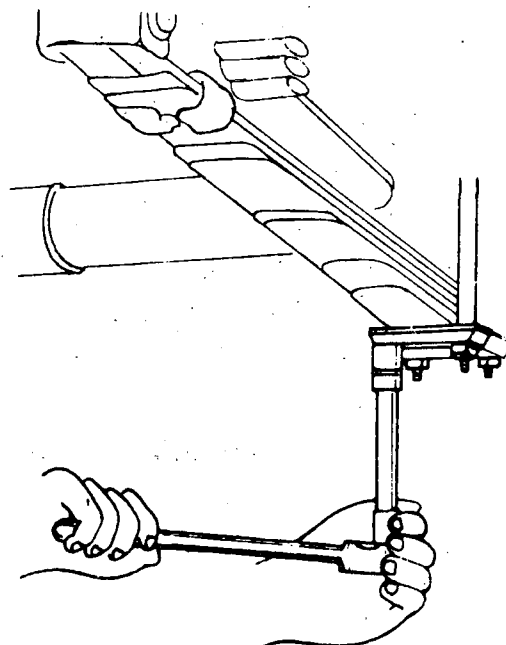

Fig. 2
- b) Remove the nuts from the "U" bolts of the spring system (fig. 2).